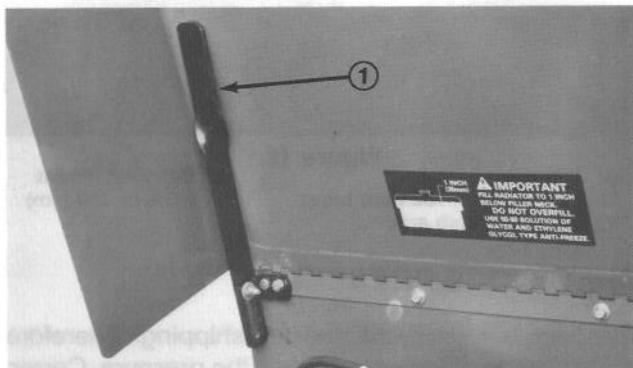

Figure 17
3. Slide bottom of hood prop (Fig. 17) out of retaining bracket. Lower hood prop, pivot upward, then downward to prop up hood.